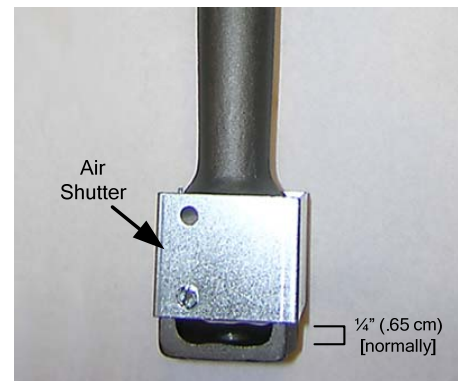

Figure 18: Install air shutters (high altitude and LP units).
9. On high-altitude and LP units, air shutters should be installed. They are normally set approximately ¼" (.65 cm) from the bottom of the burner, as shown in Figure 18.